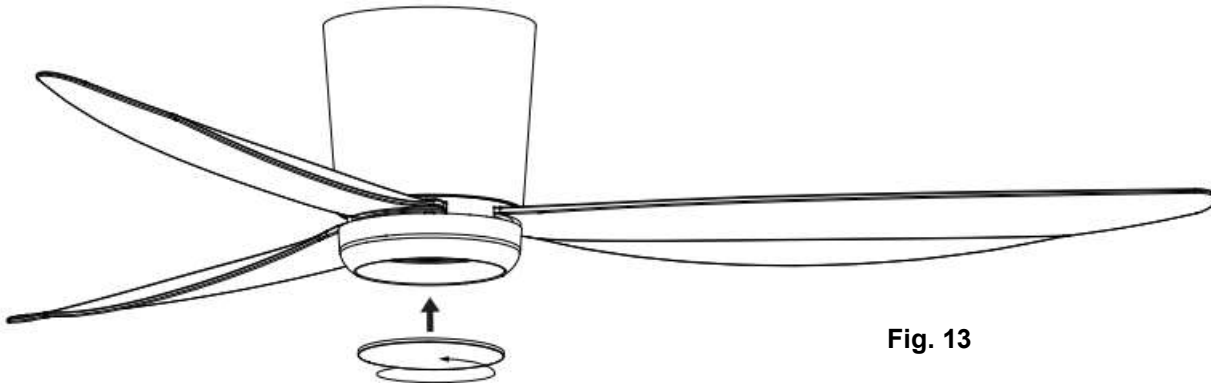

Fig. 13
INSTALLATION OF BOTTOM COVER (Fig. 13)
•If no lamp is required, Install the bottom cover to the fan assembly then secure it by turning clockwise. (Fig.13)